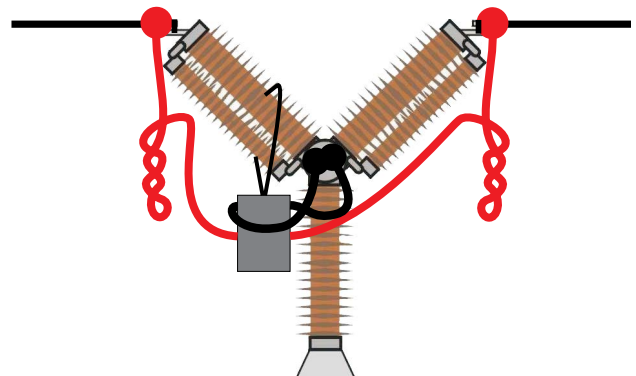

Fig. 4.2.2 By twisting the current cables you can reduce disturbances by minimizing the magnetic window created by the cable loops and the interrupter.
- 4] By twisting the cables as shown in the figure 4.2.2 you can reduce disturbances by minimizing the magnetic window created by the cable loops and the interrupter.